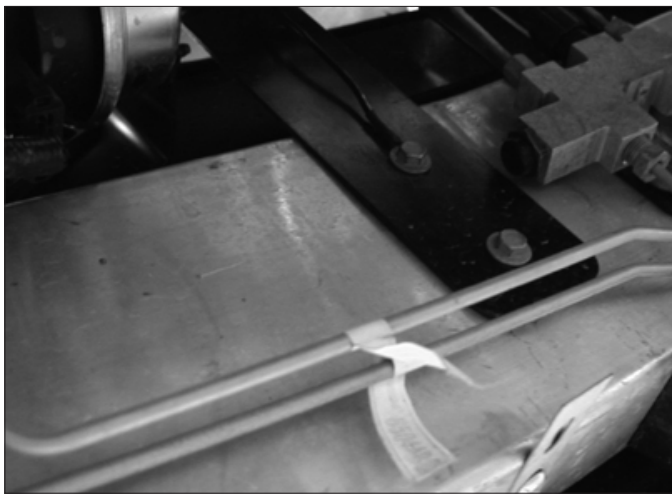

Fig. 11-5
- M. Ground to the relay is supplied by the black wire running from a screw in the frame rail under the fuse box on the driver's side. (See Fig. 11-5.) This wire is attached to the frame rail with a ring connector and to the relay with a female disconnect on the 85 terminal (relay).